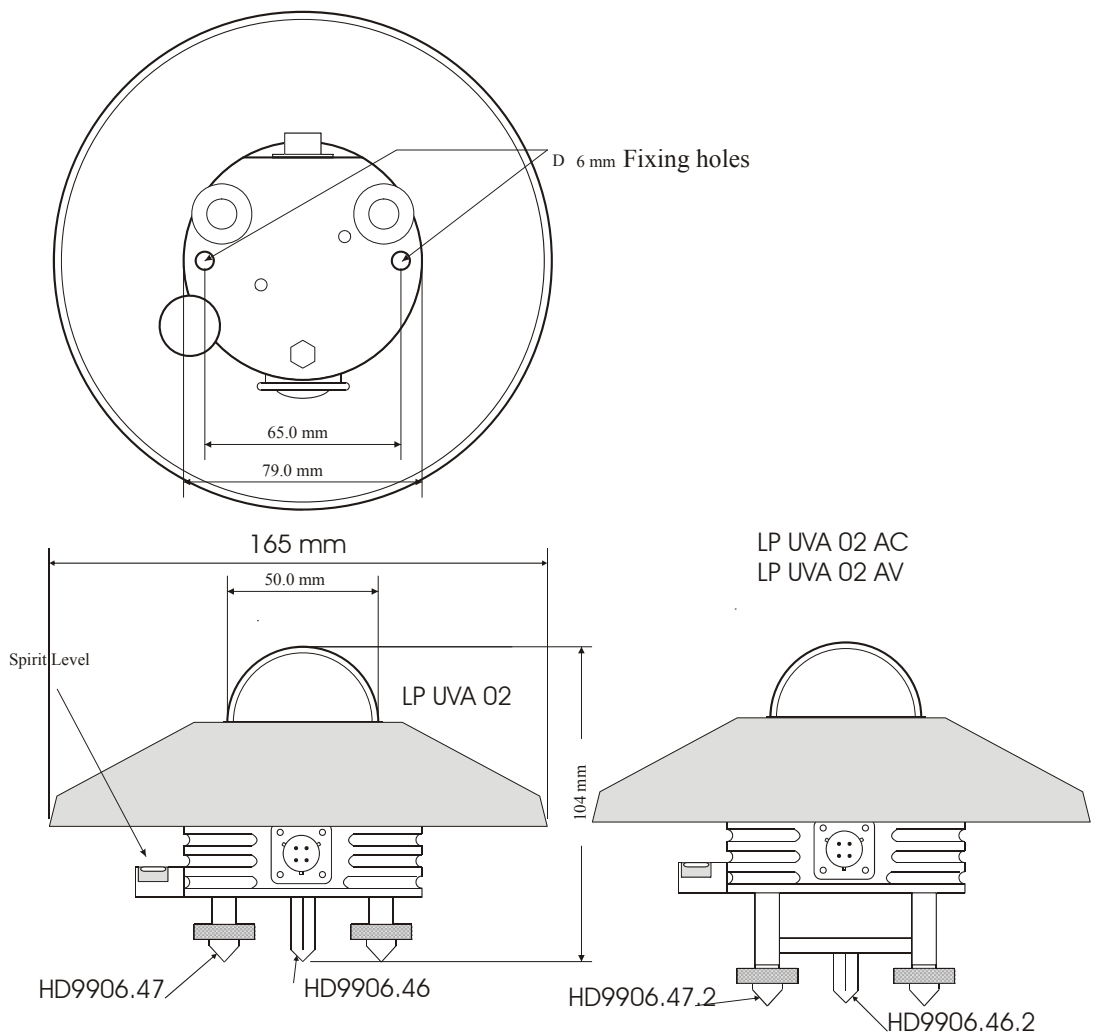

Fig 4
- The LP UVA 02 radiometer is provided with a spirit level for carrying out an accurate horizontal leveling. The adjustment is made by means of two leveling screws that allow to adjust the radiometer inclination. Use the two 6mm-diameter holes and a 65mm interaxial distance to mount the instrument on a plane. Remove the shade disk to access the holes and reposition it after mounting (see fig. 4).